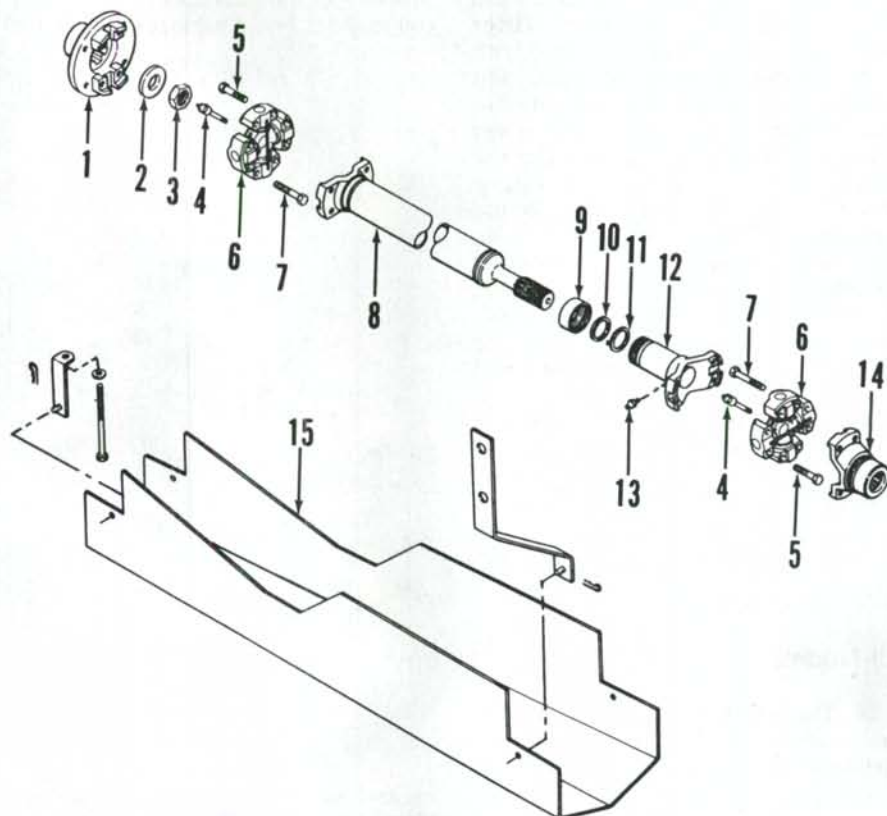

Fig. 25—Exploded view of front drive shaft assembly used with ZF front drive axle.
22. R&R AND OVERHAUL. To remove the front drive shaft first remove drive shaft shield (15—Fig. 25). Remove cap screws (7) and separate cross and bearing assemblies (6) from front and rear yokes (14 and 1). Remove lube fittings (4). Remove cap screws (5) and separate cross and bearing assemblies (6) from drive shaft (8) and